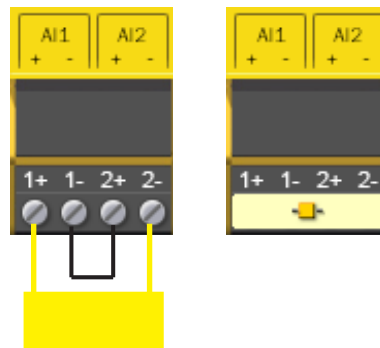

Figure 53: Connection of a safe single-channel analog signal transmitter
If only one individual sensor is used for a process variable, this sensor must be connected in series to both inputs; see figure 53.
- ▶ When using a safe single-channel analog signal transmitter, install a bridge between the connections AI1- and AI2+, see figure 53.